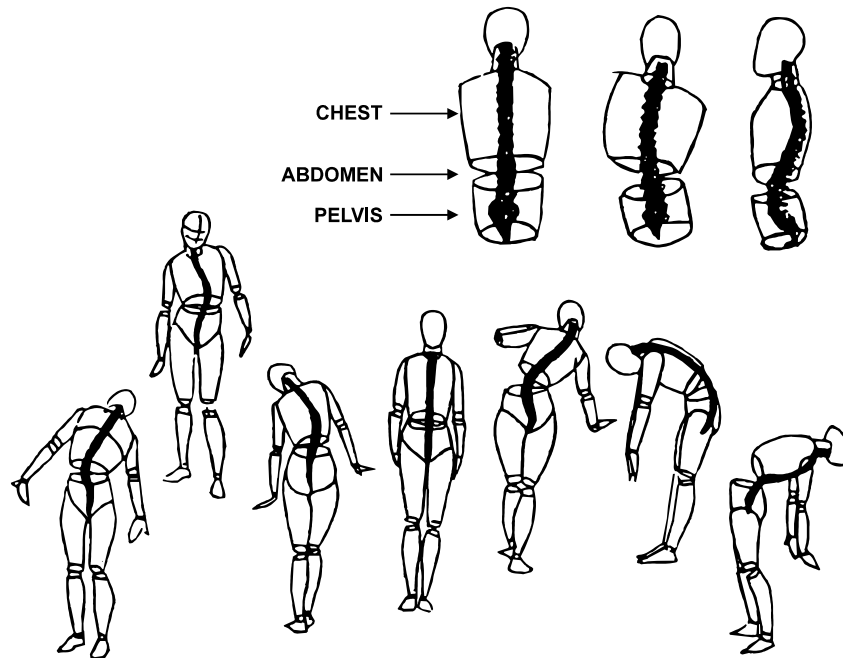

Figure K-4. Body masses connected by the spinal column.
f. An easy way to draw the human torso is to reduce it to two cylinders; the upper cylinder is twice the height of the lower cylinder. (See Figure K-4.)
(1) The chest, abdomen, and pelvis are the three central masses of the torso and are connected by the spinal column. (See Figure K-4.) The chest consists of the rib cage, shoulder, and collarbone. The shape of the rib cage is a modified cone-shaped mass. The shoulders hold the arms. Due to the muscles over the shoulder and collarbone, the rib cage appears broader than it actually is. The abdomen is a soft, fleshy, movable part of the upper portion of the torso. The chest and pelvis are stable masses. The pelvis is the lower part of the torso. It serves as a base for the legs.
(2) The study of anatomy (muscles and bones) is a must for a successful illustrator. It gives the illustrator an understanding of the structure or frame around which to build a visually accurate illustration.